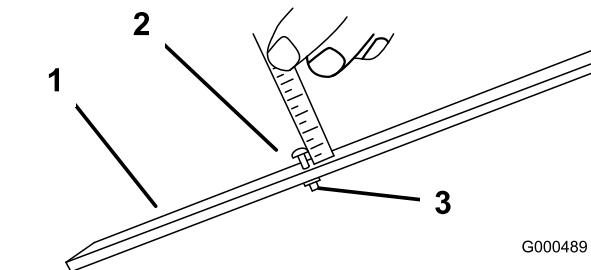

Figure 42
3. Loosen the nut on the gauge bar (Figure 42) and set the adjusting screw to the desired height-of-cut. The distance between the bottom of the screw head and the face of the bar is the height-of-cut.